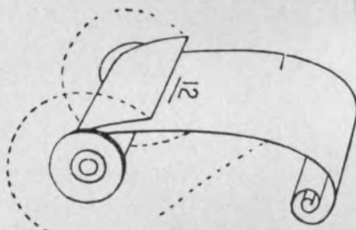

Fig. 2.
4. Attach one end of the apron to spindle through which axle "C" passes by means of the metal hooks which are to be engaged with the lugs on the spindle. (Fig. 2.) The corrugated side of the rubber bands is to be beneath the apron when it is attached. Turn to left on axle "C" and wind entire apron on to spindle, maintaining a slight tension on apron in so doing by resting one hand on it.
Fig. 2 shows a cartridge unrolled with the film on top. To correct this simply turn back the film as indicated by the dotted lines, thus bringing the film under the paper.